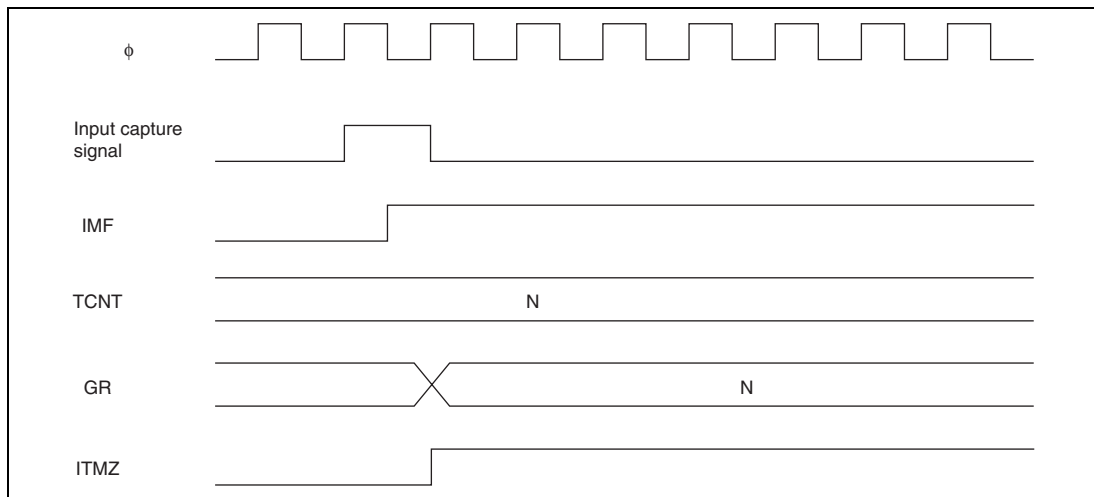

Figure 13.49 IMF Flag Set Timing at Input Capture
2. IMF Flag Set Timing at Input Capture: When an input capture signal is generated, the IMF flag is set to 1 and the value of TCNT is simultaneously transferred to corresponding GR. Figure 13.49 shows the timing.